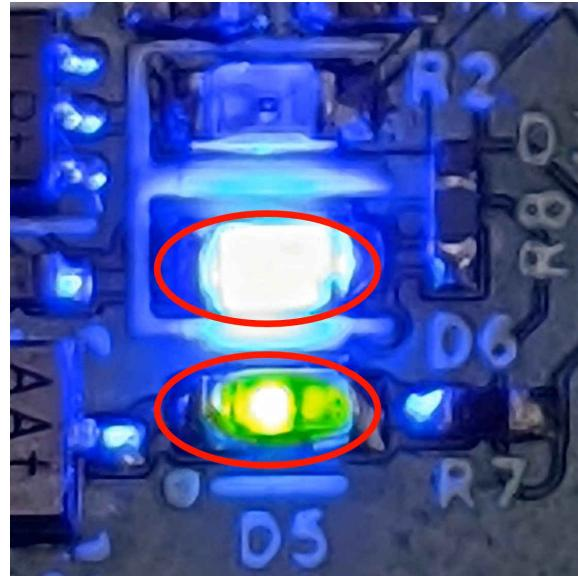

Figure 2-3. Host Mute Operating Mode LED Status
3. Turn on the supply power. Figure 2-3 shows the LED status of the EVM when in the *Host Mute* operation mode.